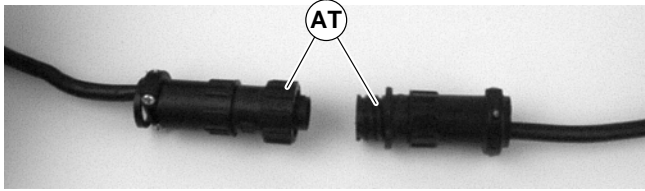

Figure 23
3. For DC variable speed motor, unplug motor cord at disconnect (AT of Figure 23).